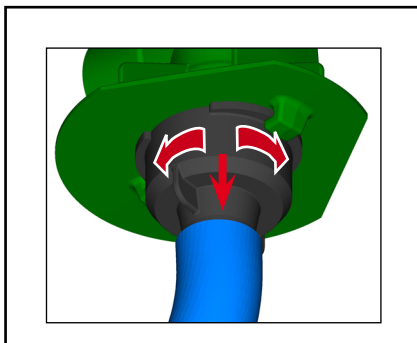

Fig. B1
1. Remove the outlet hose and the hose connector with sealing from the drink outlet (fig. B1).